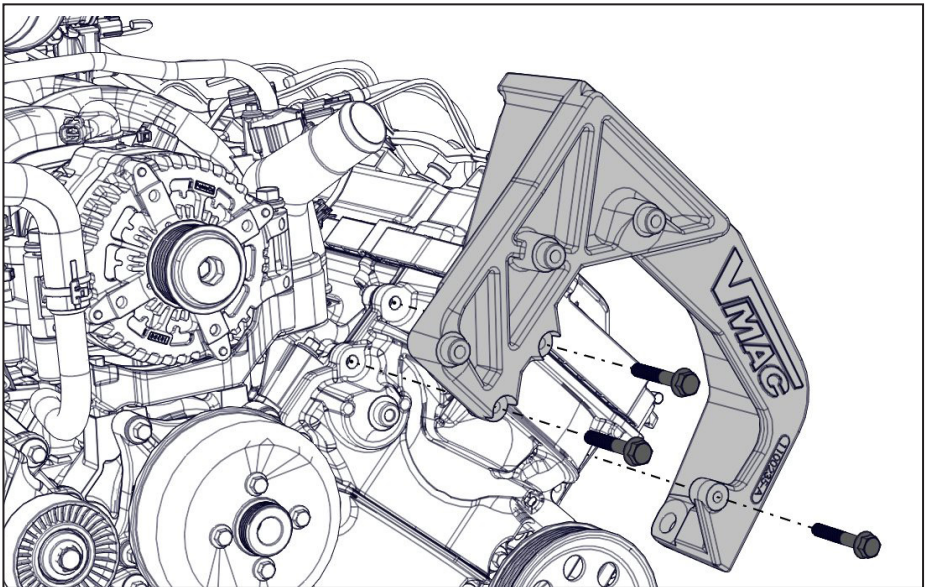

Figure 16 — Install main bracket
- Secure the bracket using the (3×) M8 × 1.25 × 50 mm fasteners; leave the fasteners quite loose to ease the next step (Figure 16).